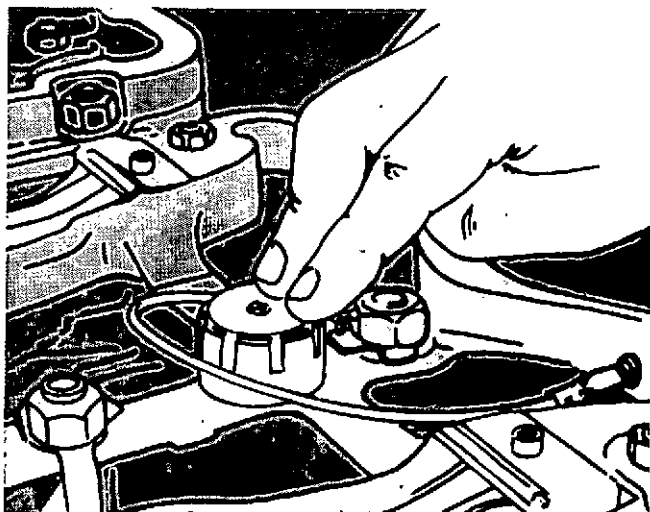

Fig. 20-11. Push On The Solenoid To Fill The Oil Passages.
- c. Decrease the engine RPM to the normal idle RPM. Push down on the solenoid 5 or 6 times to let the engine oil fill the passages in the brake units. Use your hand to push down on the solenoid, Fig. 20-11.